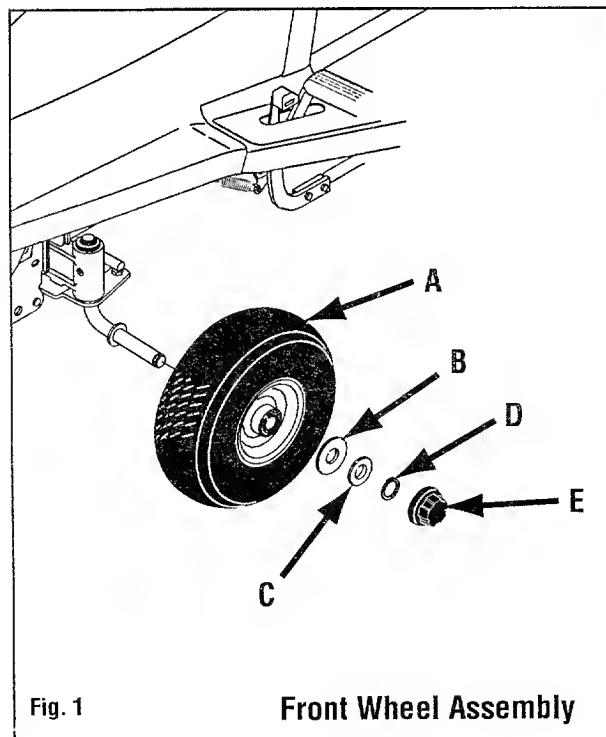

Fig. 1
- Slide wheels (A, Fig. 1) with valve stems to the inside and washers (B and C)